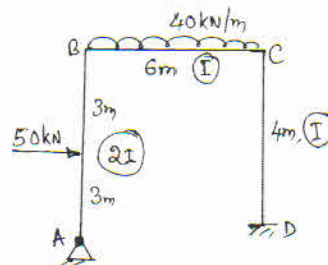

Fig Q4
- 4 Analyse the frame shown in Fig Q4 using moment distribution method. Sketch BMD.